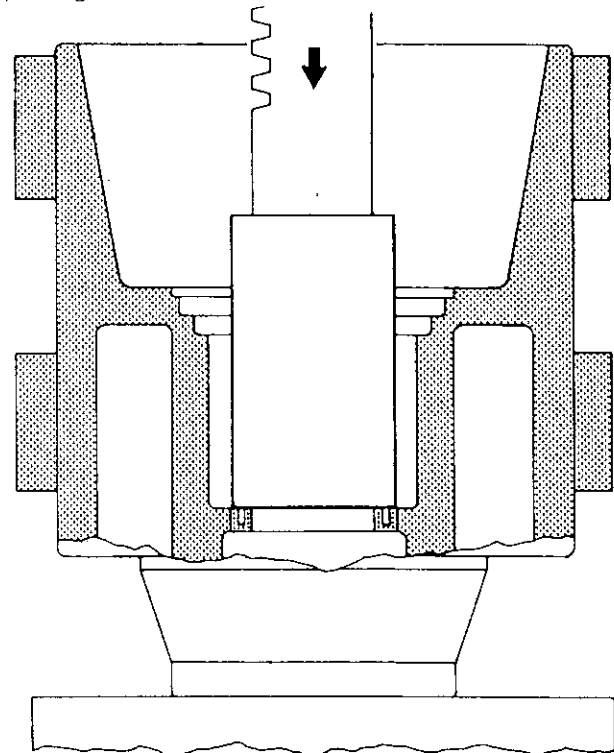

Figure 5.24
20. Press the facet drive assembly seal (40) into the drive housing adapter. See Figure 5.24. Coat the I.D. of the seal with Lithium base general purpose grease.